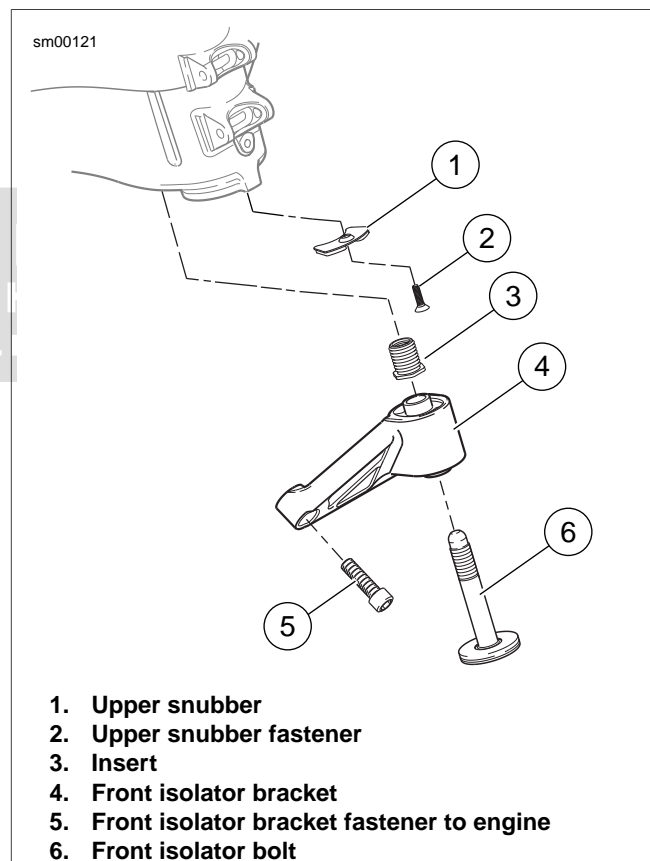

Figure 2-113. Front Isolator
3. See Figure 2-113. Remove front isolator bolt (6).
4. Remove front isolator mount fasteners (5).
5. Remove front isolator bracket (4).
6. Remove upper snubber fastener (2) and remove upper snubber (1).
See Figure 2-113. If the threaded insert (3) is damaged and needs to be replaced, install new insert with LOCTITE 271 (red) and tighten to 59-61 ft-lbs (80-82.7 Nm).
1. See Figure 2-113. Install upper snubber (1) tightening snubber fastener (2) to 12-36 **in-lbs** (1.4-4 Nm).
2. Loosely install front isolator bracket (4) with front isolator bolt (6).
3. Install front isolator bracket fasteners (5), and tighten to 49-51 ft-lbs (66-69 Nm).